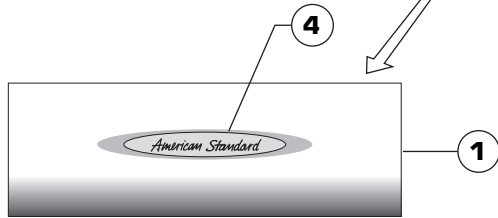

FIG. 2
- Loosen SLIP JOINT NUT & SEAL (4) and install onto DRAIN ELL ASSEMBLY (5). Install DRAIN ELL ASSEMBLY (5) into the horizontal leg of the DRAIN TEE (3). FIG 2.
- Peel protective tape from the AMERICAN STANDARD LOGO (4). Align LOGO (4) and press into place. Fig. 2.
- Thread TOE TAPPER DRAIN PLUG (5) into DRAIN PLUG (6)
- For above floor outlet, Rotate DRAIN TEE ASSEMBLY (1) 90 degrees so TAILPIECE (2) faces out the back from tub as shown. Fig. 2.